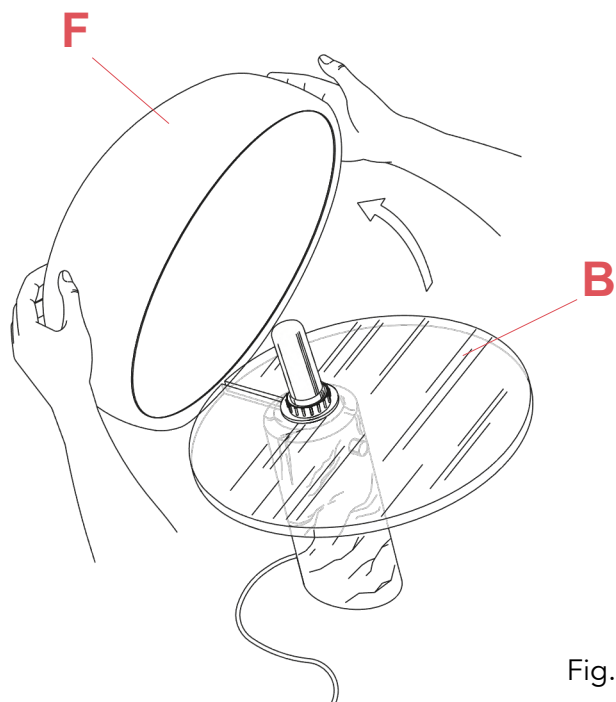

Fig.1
Position the reflector (F) (fig.1 page 15) on the glass (B) ensuring that the anti-rotation tooth (G) is inserted in the groove of the glass diffuser.